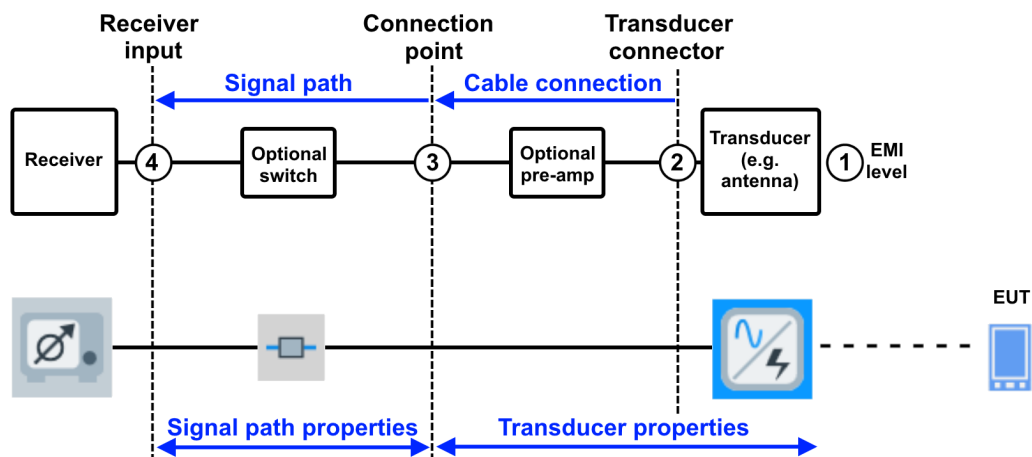

Figure 5-2: Paths in an EMI hardware setup that can contribute to signal attenuation
- In conducted setups, the transducer's cable is often connected directly to the receiver, and the signal path [3-4] in Figure 5-2 does not exist.